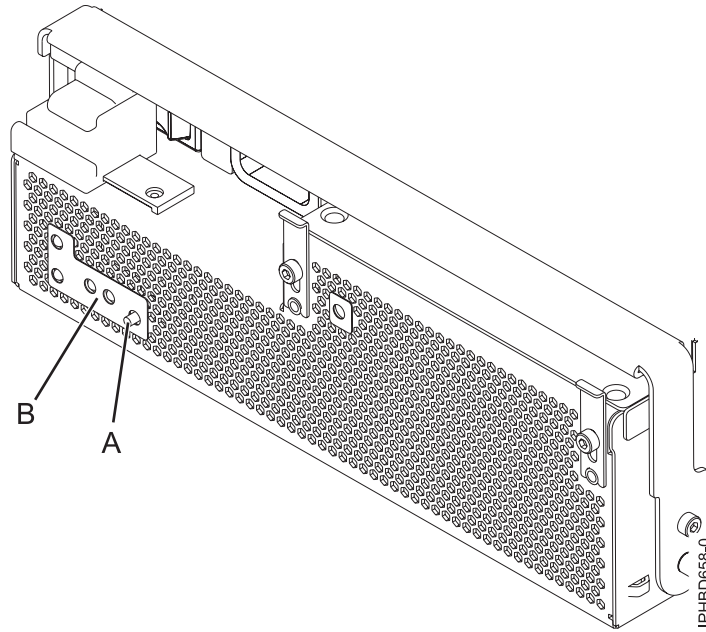
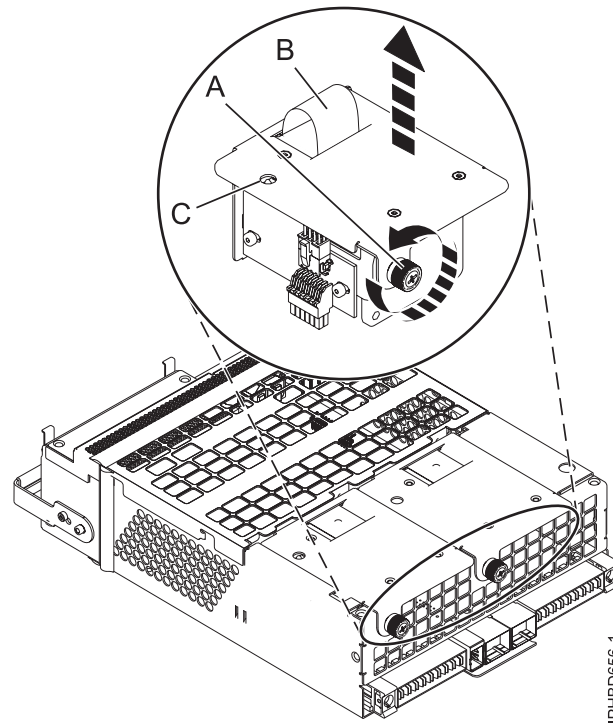

Figure 13. Fan fault LED and fan identify button
Figure 14. Removing a fan
Note: If a fan fails, the amber fan fault LED (B) on the front of the Offline Converter Assembly (OCA), as shown in Figure 13 on page 15, is on solid.
- a. To identify the failing fan. Press the fan identify button (A), as shown in Figure 13. An amber left or right fan-fault LED (C) on solid, as shown in Figure 14, indicates the faulty fan.
- b. Loosen the thumbscrew (A) that holds the fan in the power-supply assembly, as shown in Figure 14.
- c. Use the recessed fan handle **(B)** to lift the fan from the power-supply assembly, as shown in Figure 14 on page 15.